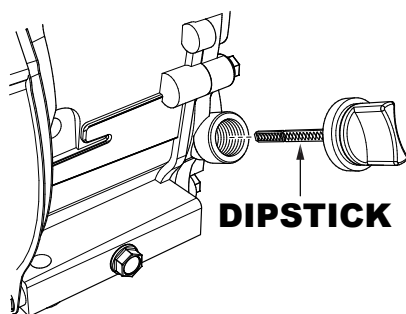

Figure 11. Engine Oil Dipstick
2. Remove the oil dipstick from the engine oil filler hole (Figure 11) and wipe it clean.